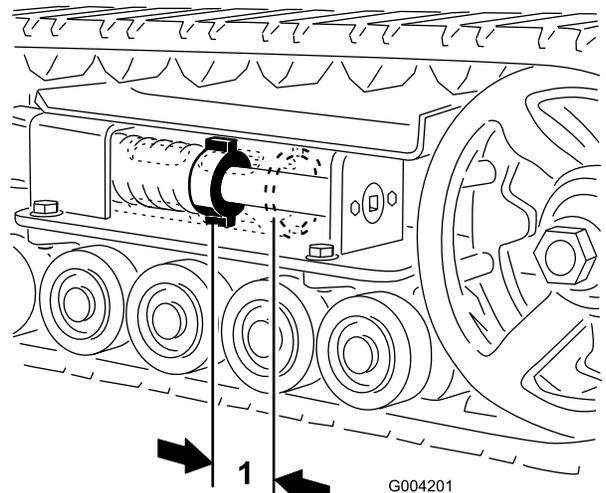
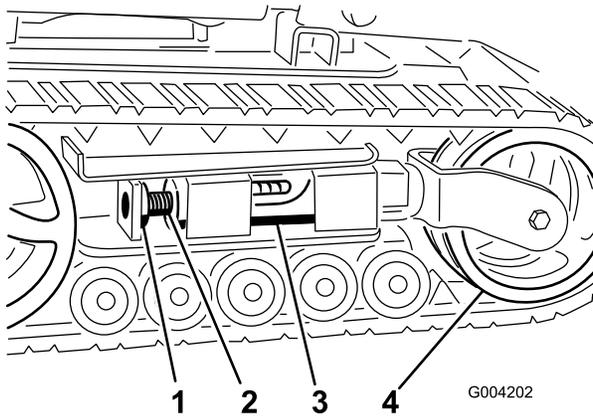
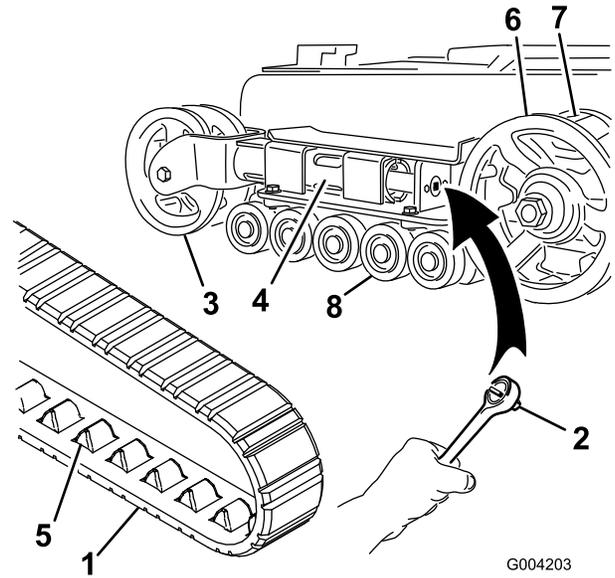
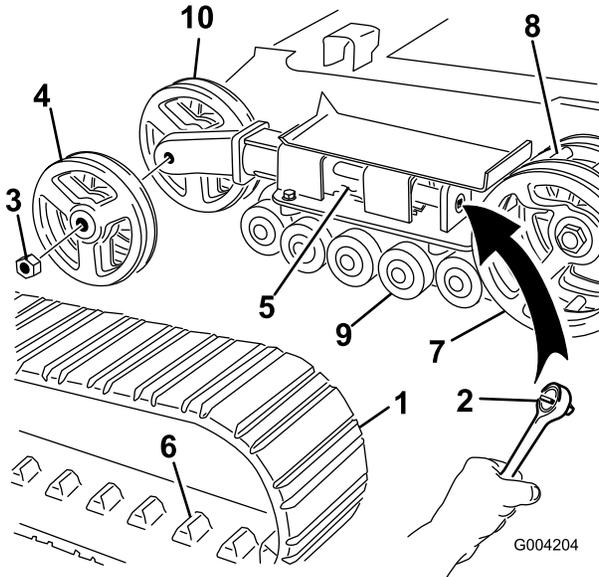

Figure 40
Figure 41
Figure 42
Figure 43
There should be 2-3/4 inches (7 cm) between the tension nut and the back of the tension tube (Figure 40). If not, adjust the track tension using the following procedure:
3. Remove the locking bolt and nut (Figure 41).
- Using a 1/2 inch drive socket wrench (Figure 42), turn the tensioning screw counter-clockwise until the distance between the tension nut and the back of the tension tube (Figure 40) is 2-3/4 inches (7 cm).
- Align the closest notch in the tension screw to the locking bolt hole and secure the screw with the locking bolt and nut (Figure 41).
- Remove the locking bolt and nut (Figure 41).
- Using a 1/2 inch drive socket wrench, release the drive tension by turning the tensioning screw clockwise (Figure 41 and Figure 42).
- Push the tension wheel toward the rear of the unit to move the tension tube against the frame (Figure 42). (If it does not touch the frame, continue turning the tensioning screw until it does.)
- When the track is off of the tension wheel, remove it from the drive sprocket and road wheels (Figure 42).
- Beginning at the drive sprocket, coil the new track around the sprocket, ensuring that the lugs on the track fit between the cogs on the sprocket (Figure 42).
- Push the track under and between the road wheels (Figure 42).
- Turn the tensioning screw counter-clockwise until the distance between the tension nut and the back of the tension tube (Figure 40) is 2-3/4 inches (7 cm).
4. Using a 1/2 inch drive socket wrench, release the drive tension by turning the tensioning screw clockwise (Figure 41 and Figure 43).
5. Push the tension wheel toward the rear of the unit to move the tension tube against the frame (Figure 43). (If it does not touch the frame, continue turning the tensioning screw until it does.)
6. Remove the nut securing the outer tension wheel and remove the wheel (Figure 43).
7. Remove the track (Figure 43).
8. Remove the nut securing the inner tension wheel and remove the wheel (Figure 43).
12. Install the inner tension wheel and secure it with the nut removed previously (Figure 43).
14. Install the new track, ensuring that the lugs in the track fit between the cogs in the middle of the drive sprocket (Figure 43).
15. Install the outer tension wheel and secure it with the nut removed previously (Figure 43).
17. Turn the tensioning screw counter-clockwise until the distance between the tension nut and the back of the tension tube (Figure 40) is 2-3/4 inches (7 cm).